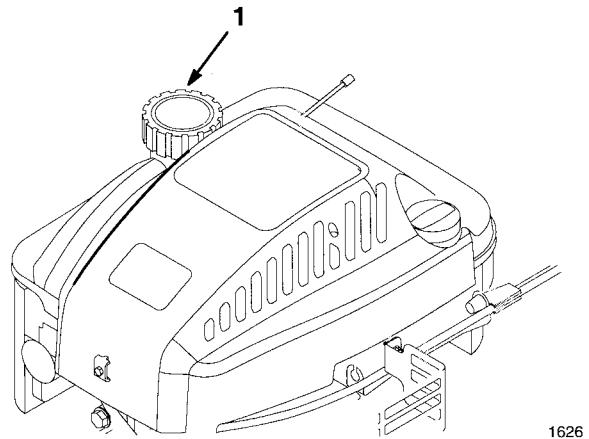

Figure 46
6. Fill fuel tank (Fig. 46) with fresh, clean gasoline.